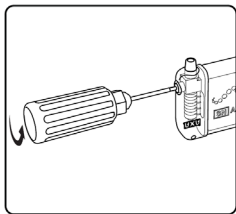

Figure 4: Use the Torque Wrench to Turn the Setscrew Counterclockwise to **Back up** the Neurostimulator Setscrew and Allow for Insertion of the Lead.
- Use the torque wrench to turn the setscrew counterclockwise to back up the setscrew. Do not remove the setscrew from the connector block (**Figure 4**).